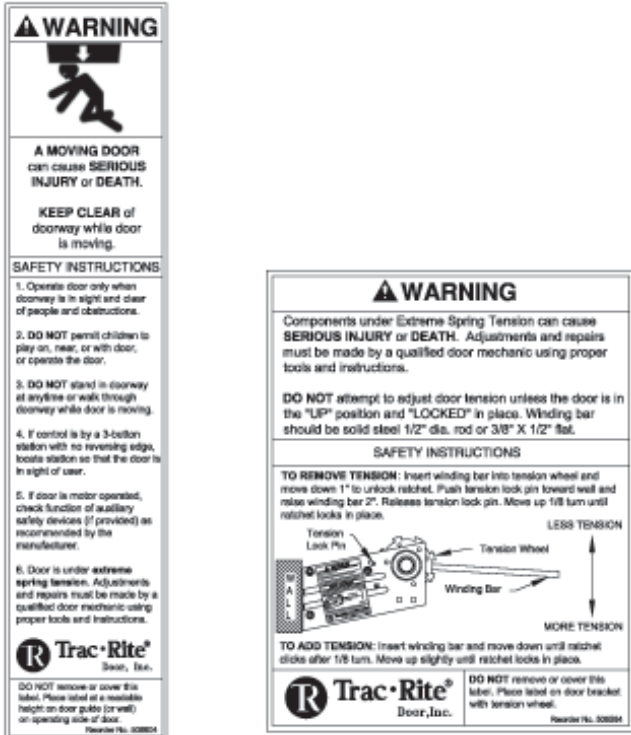

Figure 14.
9.2 Attach guide warning label (shown in Figure 14) to the guide at eye level.
9.3T If tension adjustment system was installed, attach tension adjustment warning label (shown in Figure 14) either on the door bracket with the tension wheel or to wall at eye level.